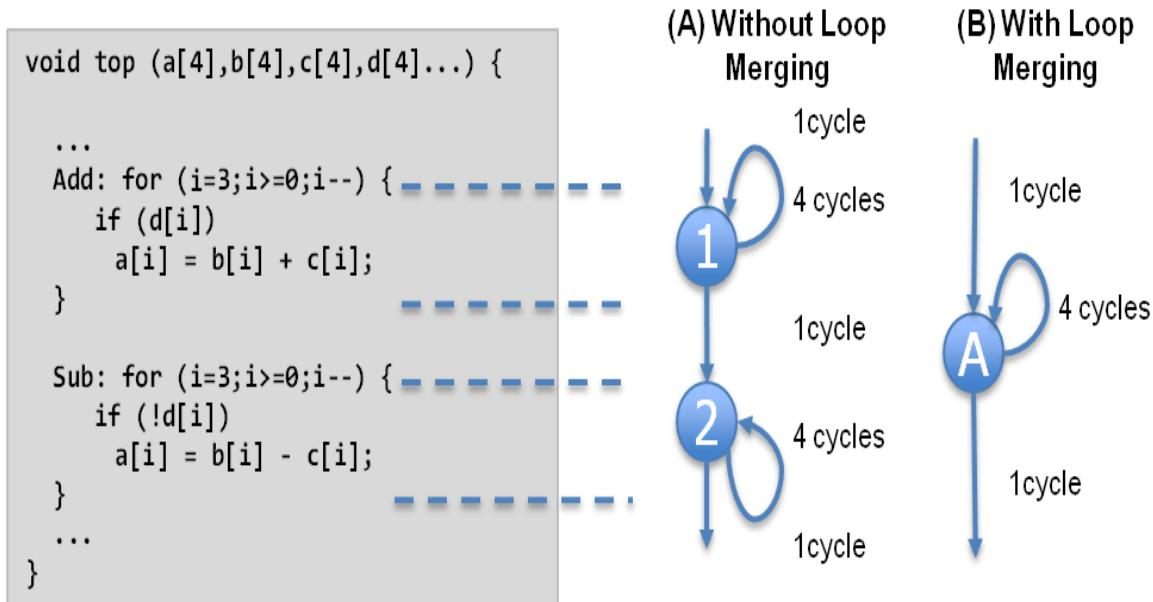

Figure 1-73: **Loop Directives**
Figure 1-73 shows a simple example where a seemingly intuitive coding style has a negative impact on the performance of the RTL design.
Figure 1-73 (A) shows how by default, each rolled loop in the design creates at least one state in the FSM. Moving between those states costs clock cycles: assuming each loop iteration requires one clock cycle, it takes a total of 11 cycles to execute both loops:
The LOOP_MERGE optimization directive is used to automatically merge loops. The LOOP_MERGE directive will seek to merge all loops within the scope it is placed. In the above example, merging the loops creates a control structure similar to that shown in Figure 1-73 (B) that requires only 6 clocks to complete.